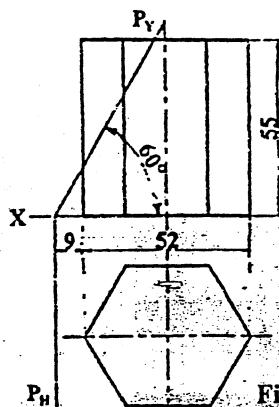

Figure 2
4. Draw a complete orthographic drawing of a hexagonal prism cut by a plane as shown in figure 2. Find the true shape of the section and develop the surfaces of the solid. [12]